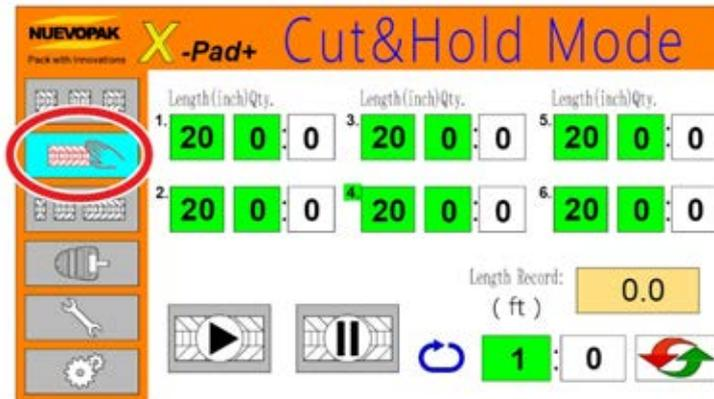

Figure 34 Cut & Hold Mode Key
Cut & Hold Mode dispenses up to six (6) pre-set lengths and quantities in a sequence. The paper is held at the exit chute until removed by the operator and then automatically replaced (refer to Figure 34).